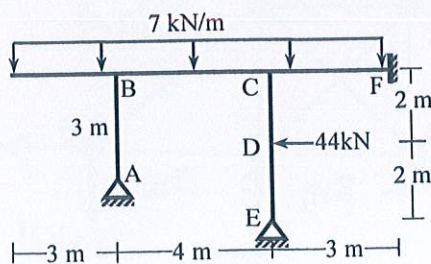

Fig.8
8. Use Moment Distribution Method to draw bending moment diagram of the frame shown in **Fig.8** [Given: $E = 200 \text{ GPa}, I = 90 \times 10^6 \text{ mm}^4$]. [15]